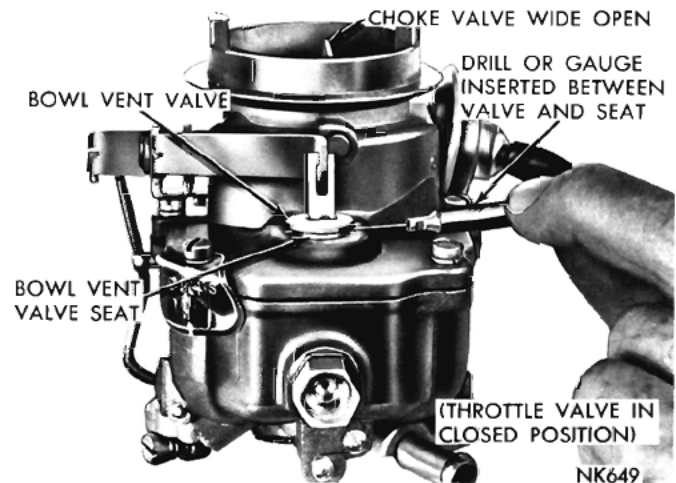

Fig. 13—Measuring Bowl Vent Opening
(3) Close the throttle valves tightly. It should be just possible to insert a  $\frac{1}{16}$  inch drill (.060) between the bowl vent and the air horn, as shown in (Fig. 13).